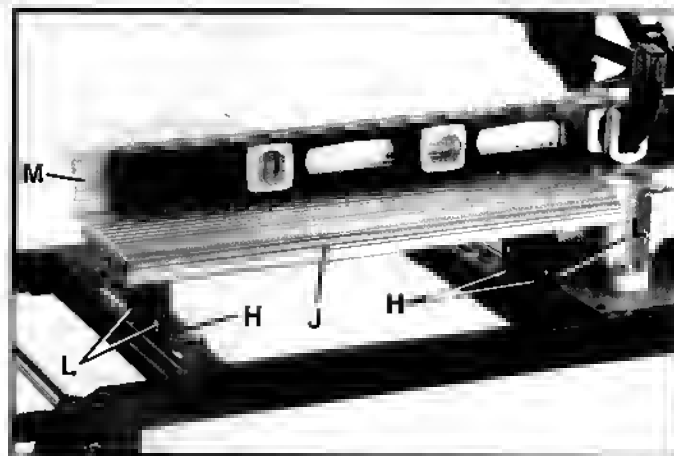

Fig. 26
5. Adjust the height of the table extension (J) Fig. 26, to be in line with the saw table by loosening the four nuts, three of which are shown at (L), and raise or lower the table extension (J). When the surface of the table extension is in line with the saw table, tighten the four nuts (L).
6. Adjust the table extension in or out until the fence (M) Fig. 26, is in line with the saw fence and tighten the four nuts located underneath the four carriage bolts, two of which are shown at (H).